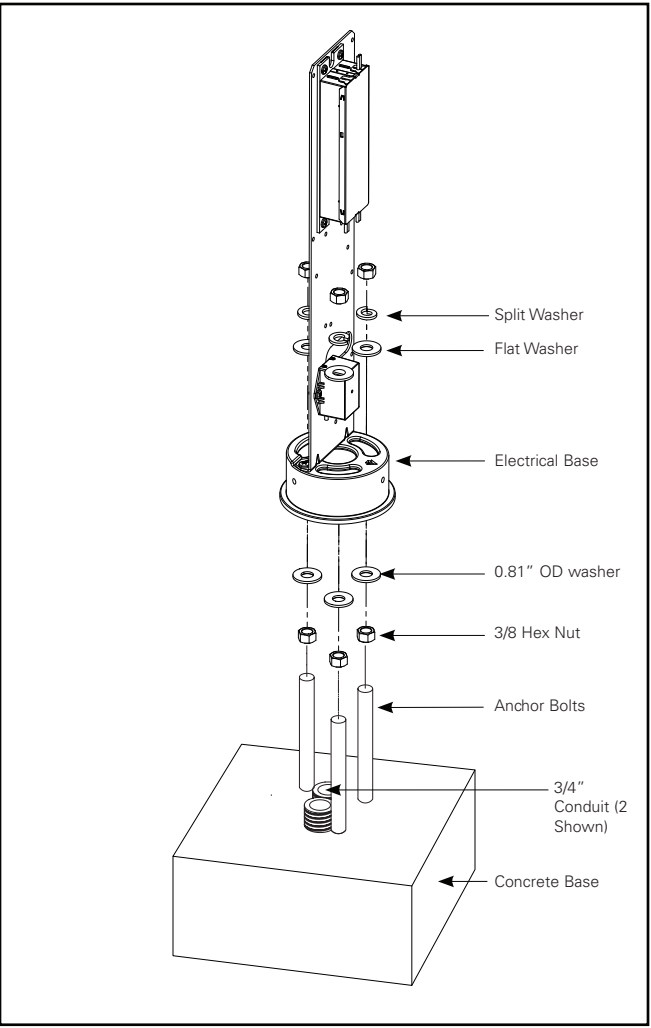

Figure 2.
5. Assemble a 3/8" hex nut onto each of the (3) anchor bolts followed by a washer on each. As a starting point, set the bottom of the hex nut to be approximately 1" above the concrete base. (Figure 2)